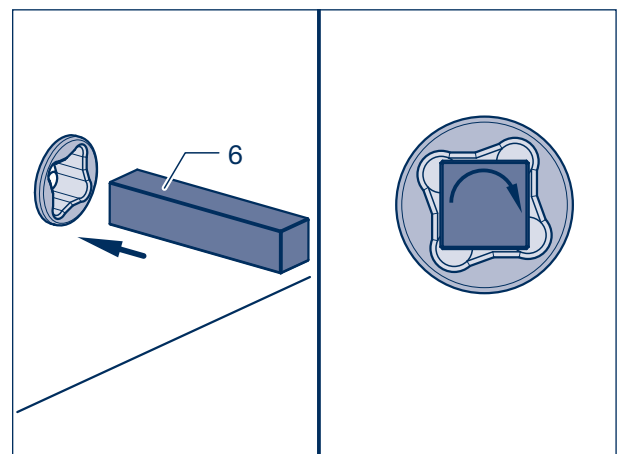

Figure 6
- [11] Remove screws from the cover plate (9a) of the keypad internal mechanism (9) using the hexagon socket (10, SW 4).
- [13] Insert keypad square bolt (6) into the keypad as far as it will go. The bolt has to be threaded into the keypad bush, see figure 6. When assembled correctly, the square bolt turns when the keypad handle is actuated.